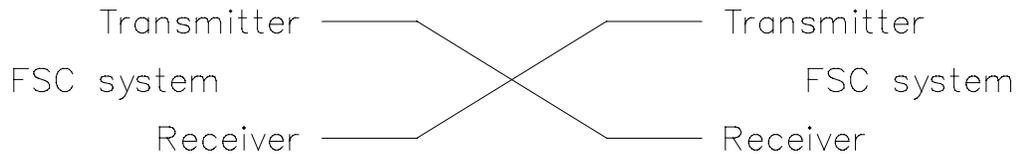

Figure 10 Connection between two FSC systems: optical glass-fiber link (using a G-interface)
- **Glass fiber** (using a **G-interface**) (see Figure 10)